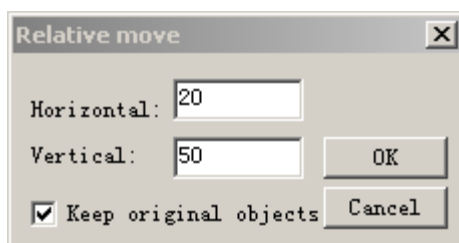

Fig. 5-11
3. A dialogue box displays. (Fig. 5-11)